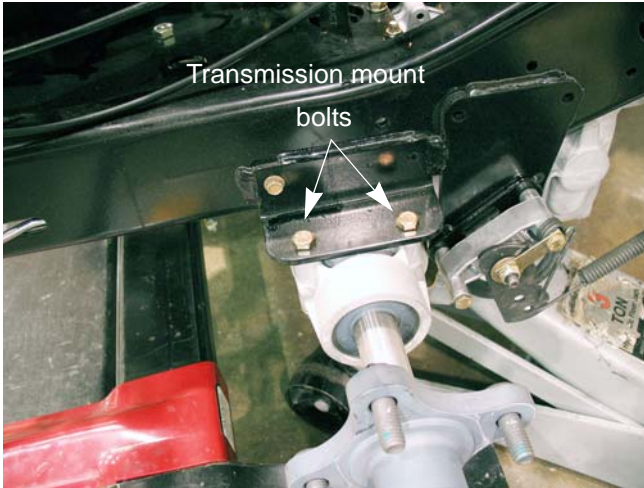

Figure 5.21
15. Remove the two bolts that fasten the transmission to the frame. See Figure 5.21.